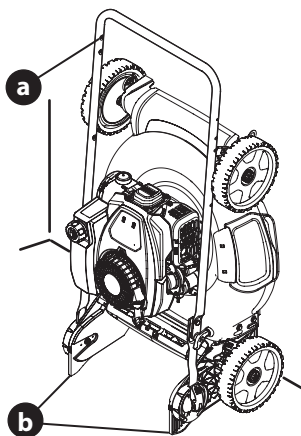

Figure 21
6. Lifting from the handle (a), tilt the mower up onto the rear wheels and back of the handle bracket (b) (Figure 21).
2. To unfold the handle, unlock the two handle release levers (inset, Figure 21) and perform STEPS 5-8 in ASSEMBLY, Vertical Storage Handle on page 8.